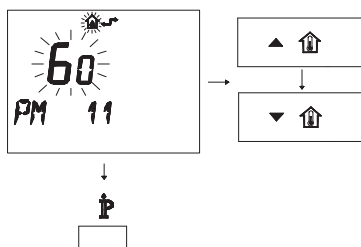

Fig. 7.34
- To modify the programmed SET, act on buttons **UP** and **HOME** or **DOWN** and **HOME** and wait for the programmed number to flash (Fig. 7.34). Each step increased or decreased corresponds to 1 second.